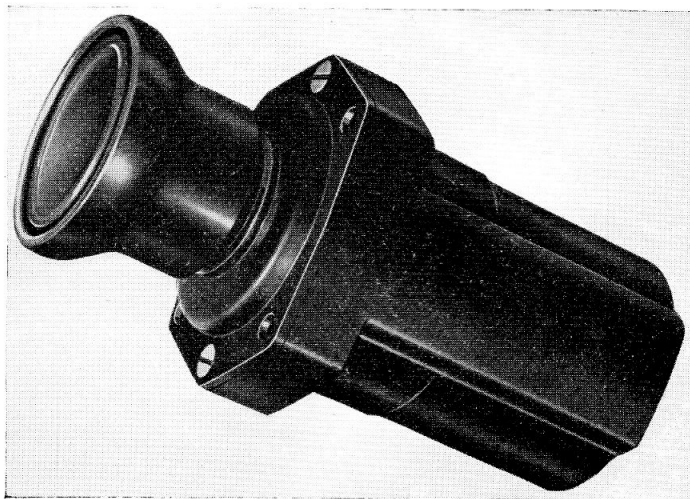

Fig. 1. A typical switch of the D7300 series
2. A typical switch is illustrated in fig. 1. The moulded